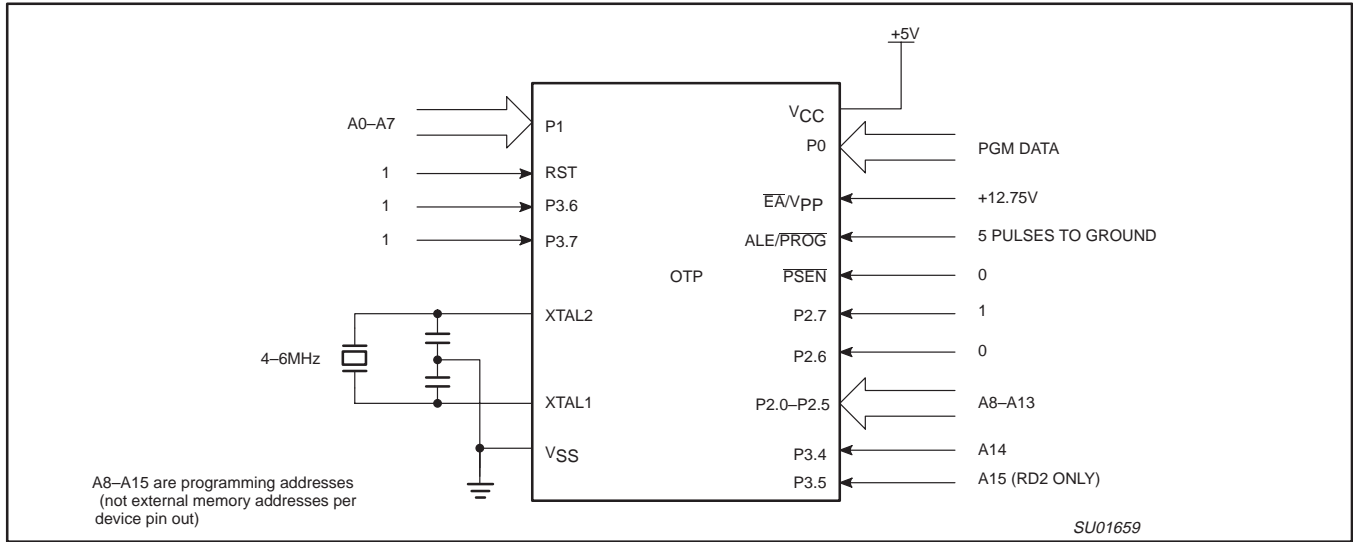
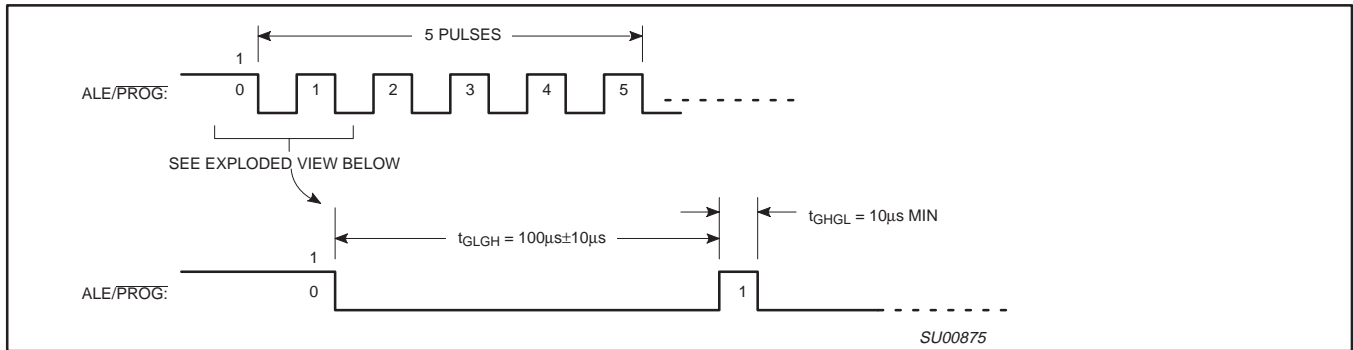
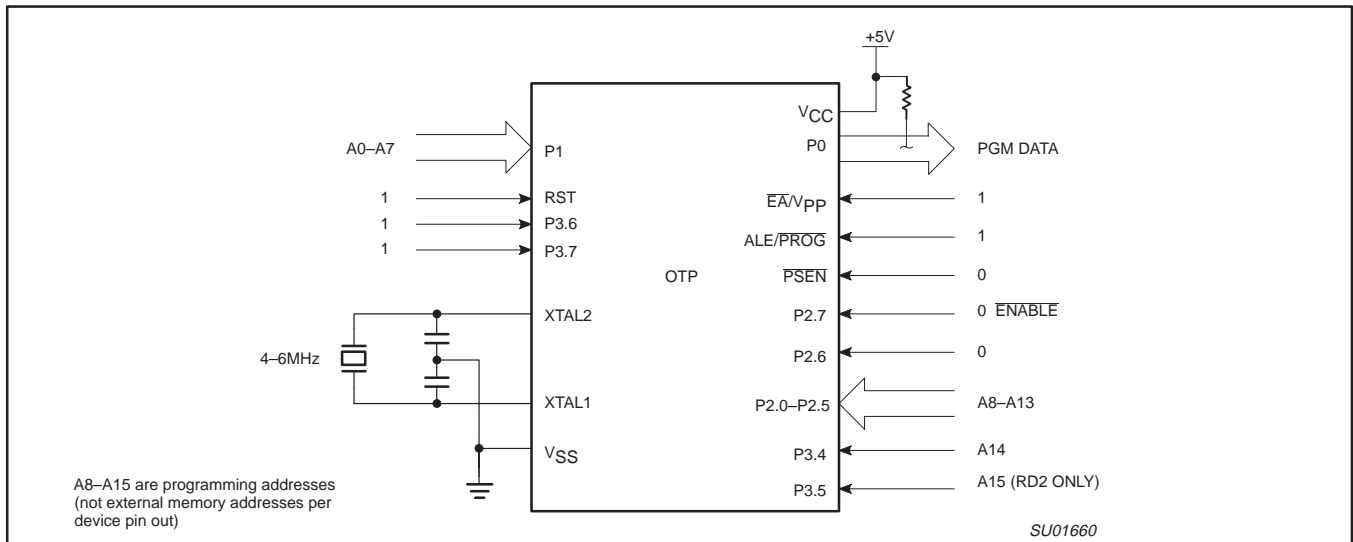

Figure 47. Programming Configuration
Figure 48. PROG Waveform
Figure 49. Program Verification
Table 7 shows the logic levels for reading the signature byte, and for programming the program memory, the encryption table, and the security bits. The circuit configuration and waveforms for quick-pulse programming are shown in Figures 47 and 48. Figure 49 shows the circuit configuration for normal program memory verification.
The setup for microcontroller quick-pulse programming is shown in Figure 47. Note that the device is running with a 4 to 6MHz oscillator. The reason the oscillator needs to be running is that the device is executing internal address and program data transfers.
The address of the EPROM location to be programmed is applied to ports 1 and 2, as shown in Figure 47. The code byte to be programmed into that location is applied to port 0. RST, \overline{PSEN} and pins of ports 2 and 3 specified in Table 7 are held at the 'Program Code Data' levels indicated in Table 7. The ALE/PROG is pulsed low 5 times as shown in Figure 48.
If security bits 2 and 3 have not been programmed, the on-chip program memory can be read out for program verification. The address of the program memory locations to be read is applied to ports 1 and 2 as shown in Figure 49. The other pins are held at the 'Verify Code Data' levels indicated in Table 7. The contents of the address location will be emitted on port 0. External pull-ups are required on port 0 for this operation.
* FOR PROGRAMMING CONFIGURATION SEE FIGURE 47.
FOR VERIFICATION CONDITIONS SEE FIGURE 49.